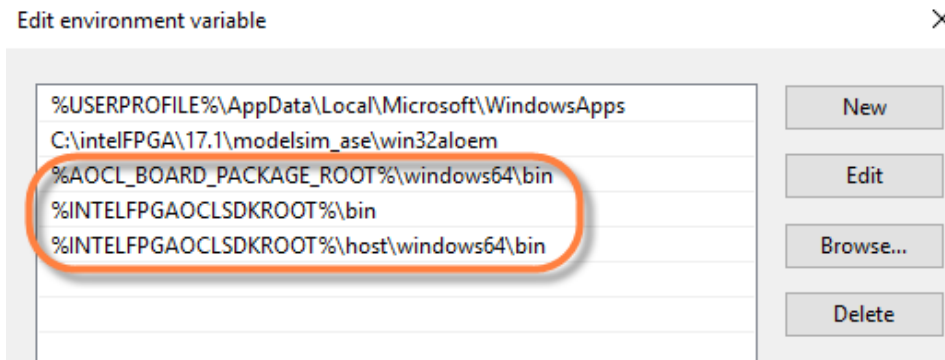

Figure 2-6 Append "%AOCL_BOARD_PACKAGE_ROOT%\windows64\bin"
5. In the Edit dialog, Append "%AOCL_BOARD_PACKAGE_ROOT%\windows64\bin", "%INTELFPGAOCLSDKROOT%\host\windows64\bin" and "%INTELFPGAOCLSDKROOT%\bin" into the Variable value edit box. Note, each different directory should be separated with a semicolon as shown in **Figure 2-6**.